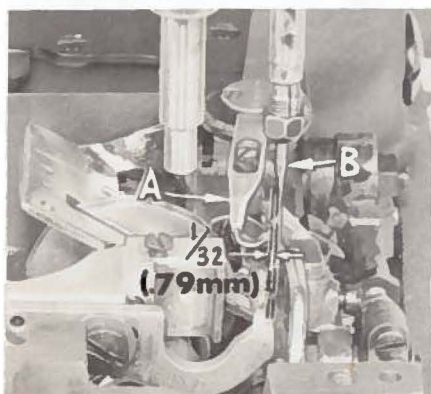

Fig. 18
As the retainer (A, Fig. 18) passes behind the needle (B), going from right to left, and the point of the retainer hook reaches the right side of the needle, the distance between the back of the needle and point of the retainer should be $\frac{1}{32}$ inch (.79 mm) (See Fig. 18). When the retainer reaches the extreme left end of its travel, the point of the loop retainer hook (A) should be $\frac{5}{32}$ inch (3.97 mm) from the centerline of the needle (See Fig. 19). These dimensional settings can be made by loosening screws (B, Fig. 19), reposition loop retainer hook (A) as required and retighten screws (B).